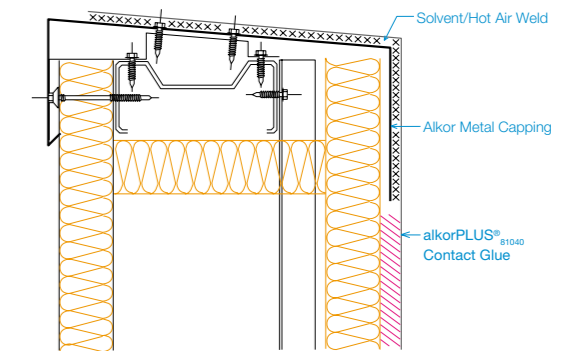

fig. 5: Double-sided gluing of parapets
- Parapets can also be adhered to achieve a wind-tight detail. (See fig. 5) Here, the alkorPLUS® 81040 contact glue is applied to the entire surface of both membrane and upstand with a minimum consumption of 2 x 150 g/m². The parapet will have an alkorPLUS® metal trim, but compressive foam and intermediate fastening can be omitted.